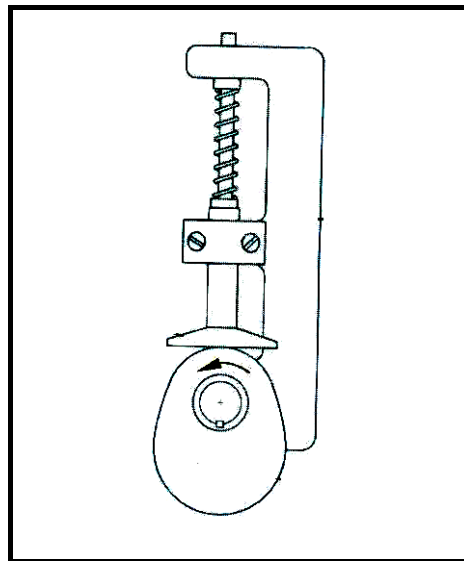

FIGURE 1.8
1.18 Define a *cam follower* as shown in FIGURE 1.8.